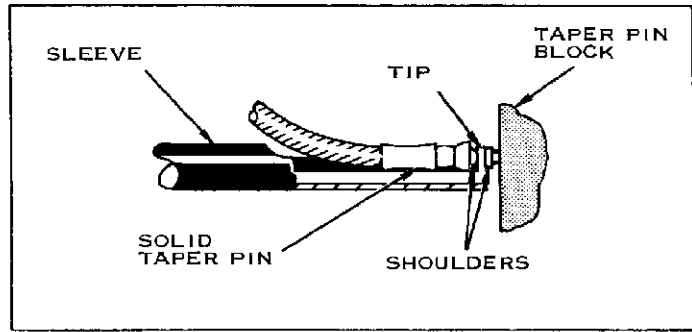

FIGURE 4
1. Place the Tool Tip between the two Shoulders of the Taper Pin as shown in Figure 4.